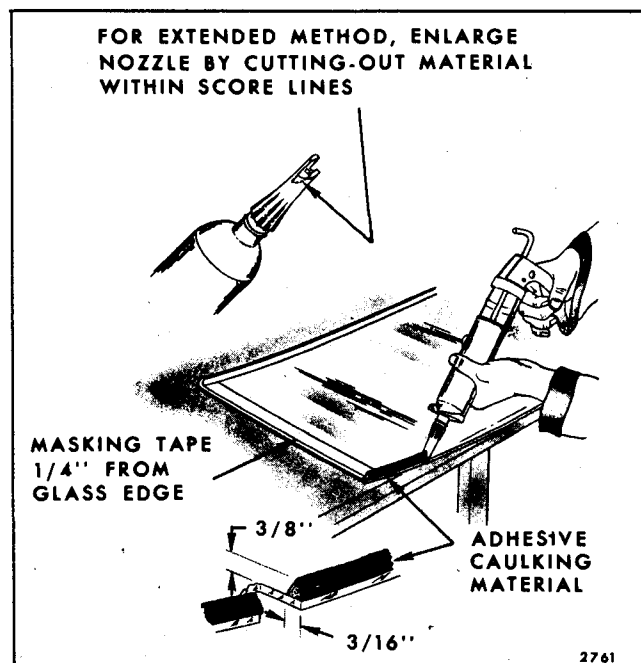

Fig. 4-8-Adhesive Material Application
11. Remove glass from opening and apply one-inch masking tape around inner surface of glass 1/4" inboard from outer edge. On windshield installations, apply tape to top and sides only. Do not use tape across bottom. Removal of tape after glass installation will aid in clean-up and give a smooth, even edge to adhesive material (Fig. 4-8).
13. Nozzle furnished in kit is designed for "short" method. For "extended" method, enlarge nozzle opening by removing material within score lines as indicated in Figure 4-8. Do not notch nozzle beyond score lines.
15. With caulking gun and nozzle positioned as illustrated in Figure 4-8, carefully apply smooth continuous bead of caulking material 3/8" high by 3/16" wide at base completely around inside edge of glass.